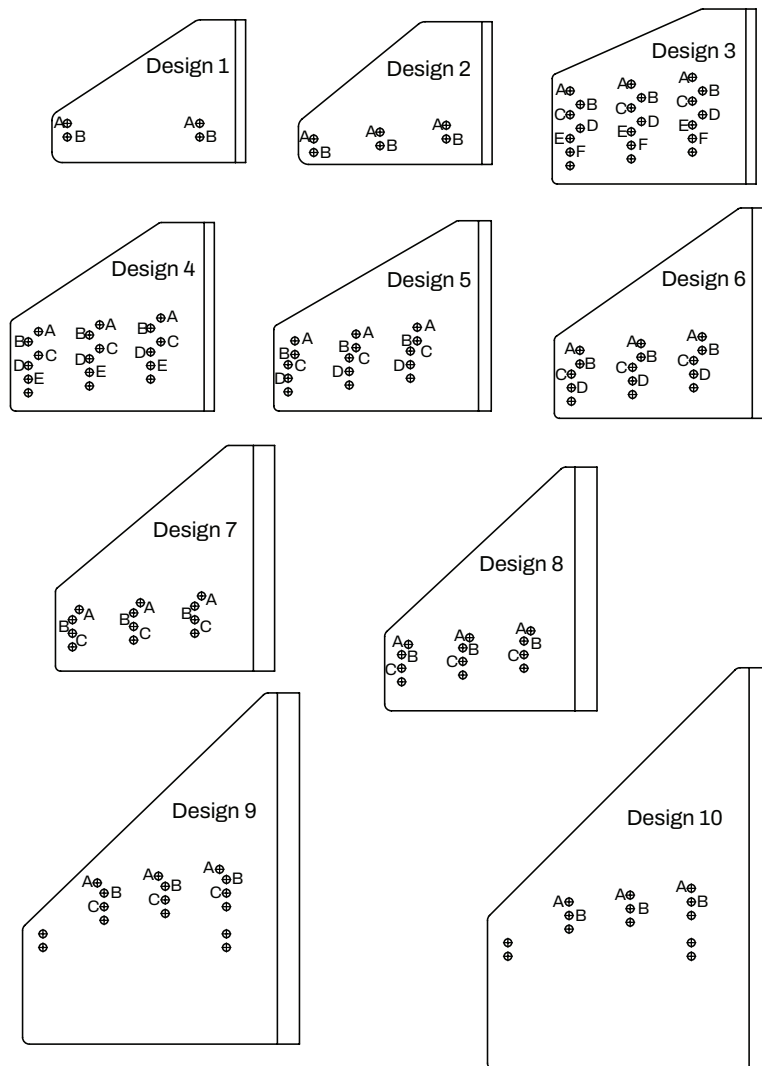

Figure 8 - Side Plate Hole Locations
Scoops for motor frames 320 and smaller are a bolted design where parts (1), (2) and (3) are assembled together as part of the installation process (Refer to Figure 8). Scoops for motor frames 360 and larger are a fabricated design where parts (1), (2), and (3) are welded together at the factory and arrive as a single part within the scoop kit. With this in mind, the assembly process varies slightly based on motor frame size.
1. Refer to Table 9 and Figures 8 & 9 during assembly of the scoop motor bracket for parts identification and important assembly information. Place the left (1) and right (2) side plates and the bottom plate (3) in front of the input side of the reducer. Orient the bottom plate (“U” up or “U” down) based on Table 9. Identify and remove the reducer cover bolts necessary for installation of the side plates. Remove only those cover bolts or you may rupture the oil seal between the end cover and reducer housing.
2. Assemble the side plates (1) and (2) onto the reducer using the longer bolts (4) and flat washers (5) furnished with the scoop kit. Do not fully tighten the bolts at this time as you will need sideways movement to assemble the bottom plate.
3. Using bolts (6), washers (7) and nuts (8) furnished with the kit, bolt the bottom plate to the side plates using the correct holes as indicated in Table 9 and Figure 8. Do not fully tighten the bolts at this time.
1. Refer to Table 9 and Figures 8 and 9 during assembly of the scoop motor bracket for parts identification and important assembly information. Place the fabricated scoop consisting of parts (1), (2), and (3) in front of the input side of the reducer. Identify and remove the reducer cover bolts necessary for installation of the fabricated scoop. Remove only these cover bolts or you may rupture the oil seal between the end cover and reducer housing.
2. Assemble the fabricated scoop onto the reducer using the longer bolts (4) and flat washers (5) furnished with the scoop kit. Care should be taken to center the scoop on the reducer; this will provide the most clearance in the motor foundation fasteners and make coupling alignment easier later. Tighten the bolts (4) to the tightening torques specified in Table 1.